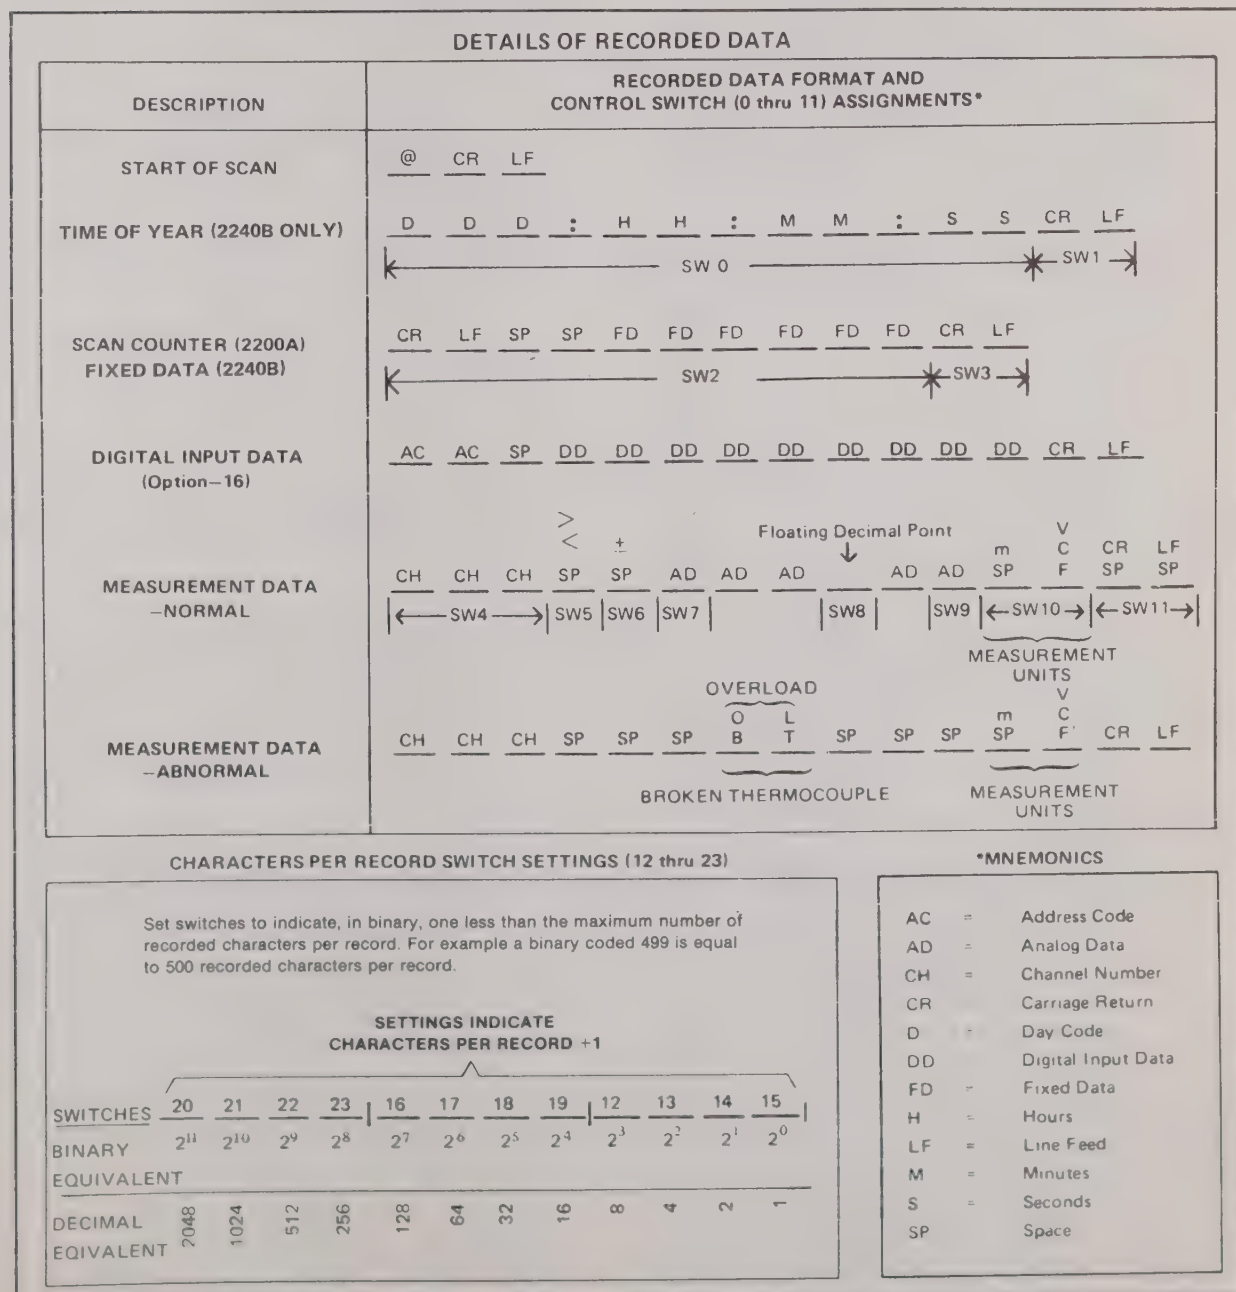

Figure 614-2. Recorded Data Format and Digital Output PCB Switch Assignments
- d. With reference to Figure 614-2, establish the format of recorded data as follows:
1. Set switches 0 through 23 to OFF. This establishes the format shown in Figure 614-2.